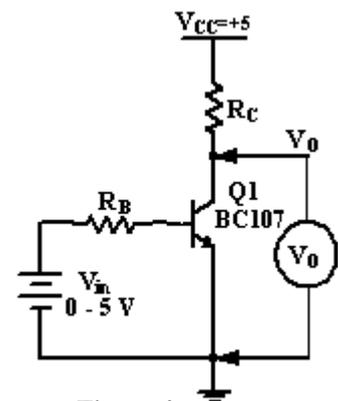

Figure 4
- 1- Construct the circuit shown in Figure 4. By using **BC107 BJT** and use $V_{CC} = +5V$, $R_C = 1k\Omega$ and $R_B = 4.7k\Omega$.
- 1- For the same circuit shown in Figure 4, set $V_{in} = 0.0V$, read the value of V_O and fill it in Table 5 in the sheet answer.